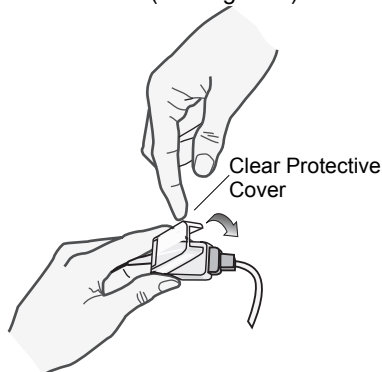

Figure 6
5. Lower the clear plastic protective cover over the connection to secure it (see Figure 6).
7. Lower the clear plastic protective cover over the connection to secure it (see Figure 6).